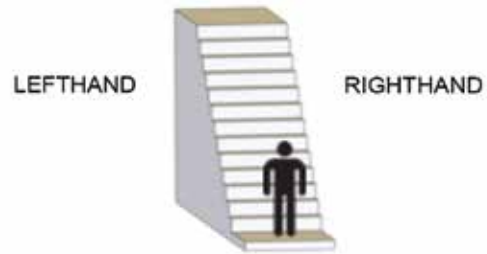

Figure 11-1
1. Determine if the lift will be installed on the right or left side of the staircase. [Figure 11-1]